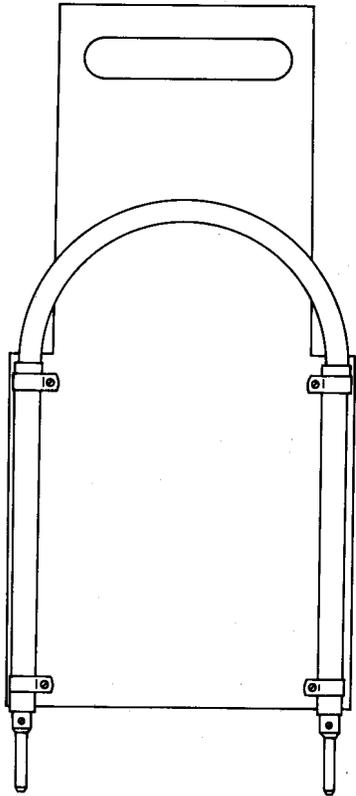

Fig. 3—452A Plug
**2.03 452A:** The 452A (Fig. 3) is a twin, through-plug consisting of two 436A plugs, connected by a 728A cable, mounted on a red nylon plate. The 452A plug is used in the L4 Coaxial System.